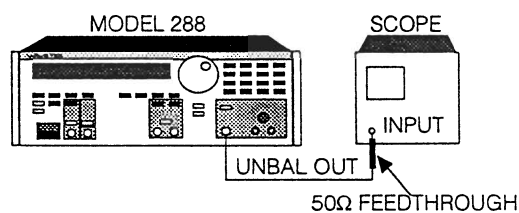

Figure 5-2. Square Wave Adjust Setup
3. Connect the test equipment as shown in figure 5-2.